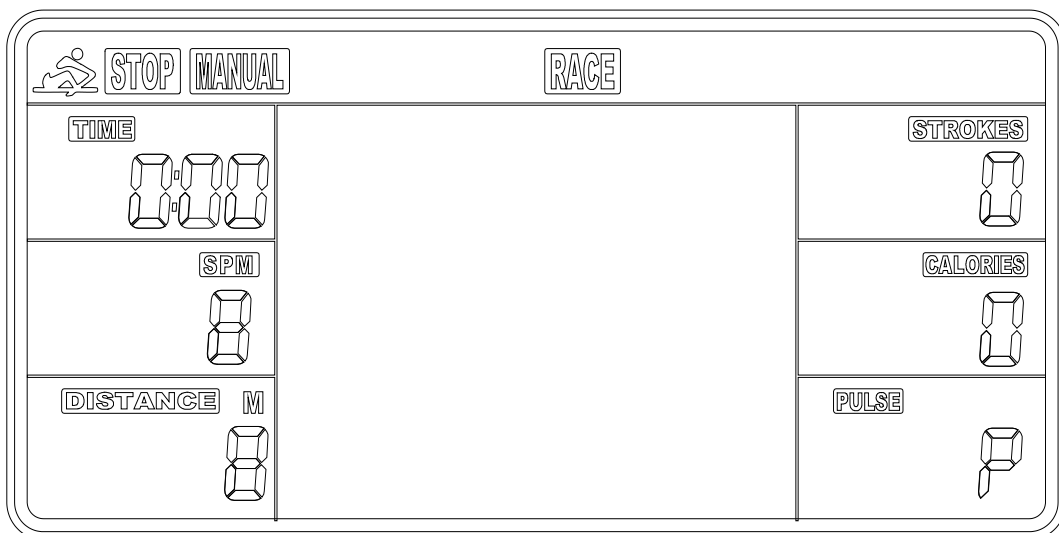

Fig. 3
2. The CLOCK will flash. Press UP button to set the hour. Press ENTER to confirm. Press UP to set the minutes. Press ENTER to confirm. Continue press UP button to set the YEAR (in the STROKES window); MONTH (in the CALORIES window); DAY (in the PULSE window). Press ENTER to confirm when it is set. After you confirm it, the ALARM will beep. Press ENTER to skip setting up the alarm. To set up the alarm, press UP button to turn on ALARM. An arrow will appear next to ALARM. Press ENTER. CLOCK window will flash. Press UP or DOWN buttons to set the alarm time. Press ENTER to confirm. Meter will go into the SPORT screen (Fig. 3).